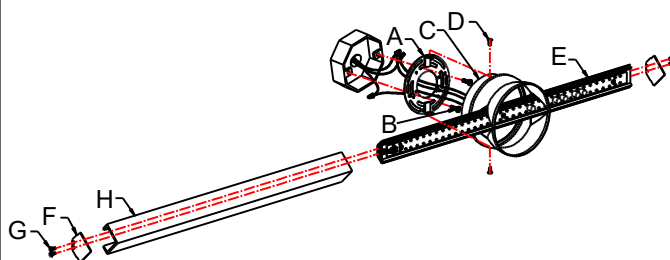

Fig. 2
CONNECTING THE WIRES (Fig.2)
4. Connect the electrical wires as shown in Fig. 2, making sure that all wire connectors are secured. If your outlet has a ground wire (green or bare copper), connect the fixture's ground wire to it. Otherwise, connect the fixture ground wire directly to the mounting plate (A) using the green screw provided. After wires are connected, tuck them carefully inside the outlet box.
5. Place the fixture's back plate (C) over the mounting plate (A) and secure with screws (D).